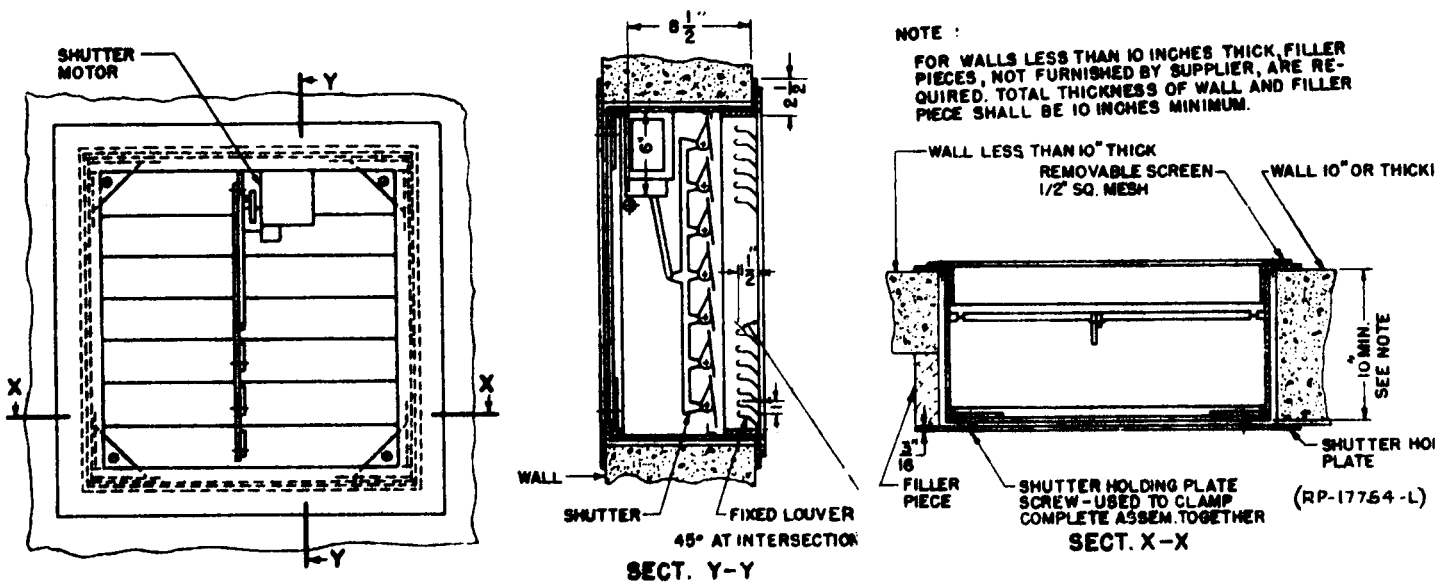

FIG. 4 KS-5592-01 WALL LOUVER, SCREEN AND SHUTTER ASSEMBLY
3.111 Wall louver, screen and shutter assemblies which include a shutter motor shall be installed as shown in Figure 4. These assemblies, specified by KS-5592-01, require a minimum depth of 10 inches. If the wall is less than 10 inches thick, filler pieces shall be used as shown in the figure. These filler pieces are not furnished and should be made up on the job.